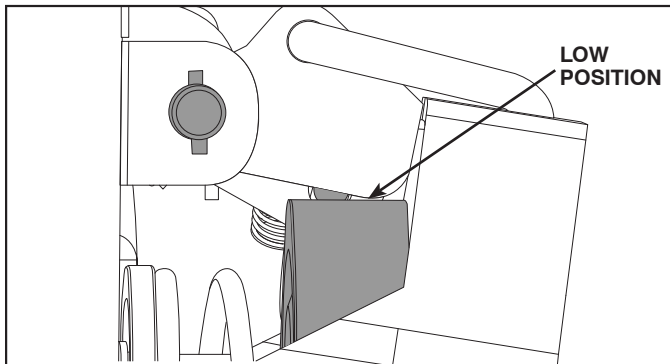

FIG. 32
**NOTE:** Fig. 32 shows the bellcrank positioned too low, causing hard disengagement or self-disengagement while driving.